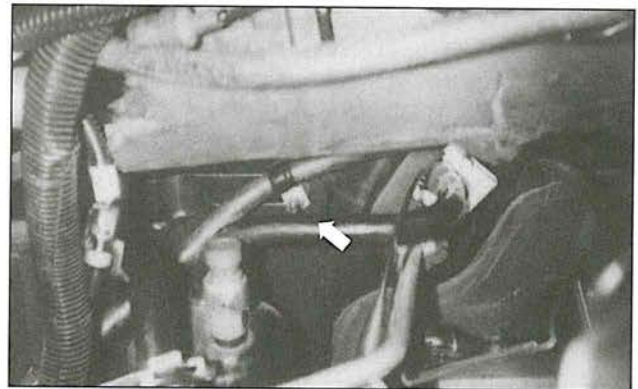

Fig. 10
- c. Use the P-clip provided to secure the hose to the dash panel (see Fig. 10). Use the M6 locknut provided to fasten the P-clip to an existing dash panel stud.